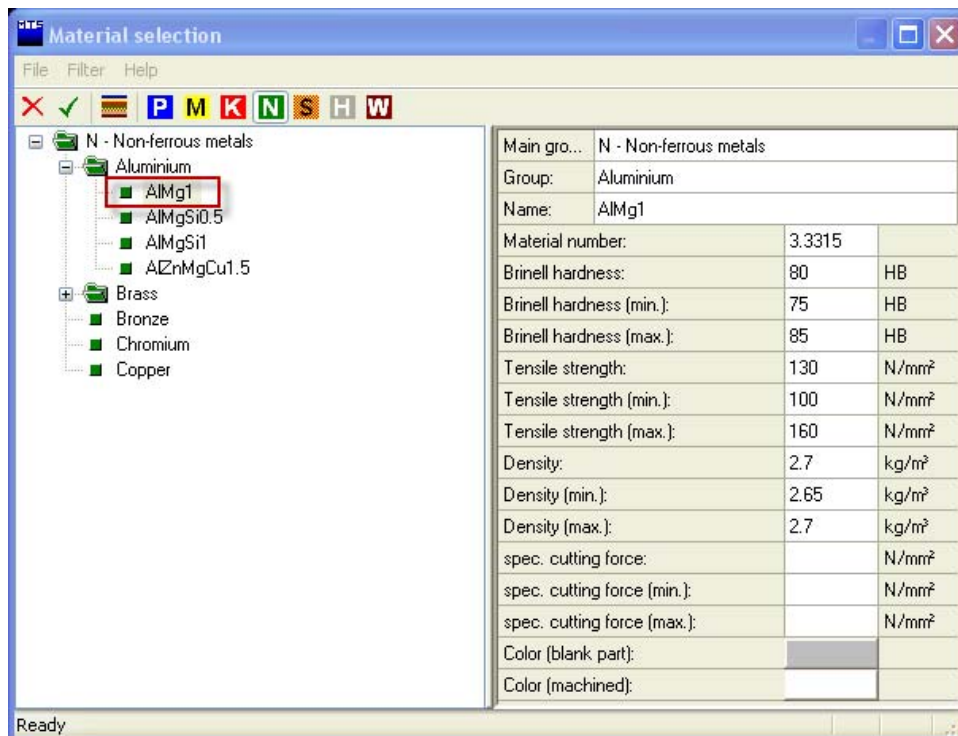

Fig. 2.11: selecting the Almg1 material
- f. Click on “**Almg1**”, then Click select and quit . Fig. 2.11